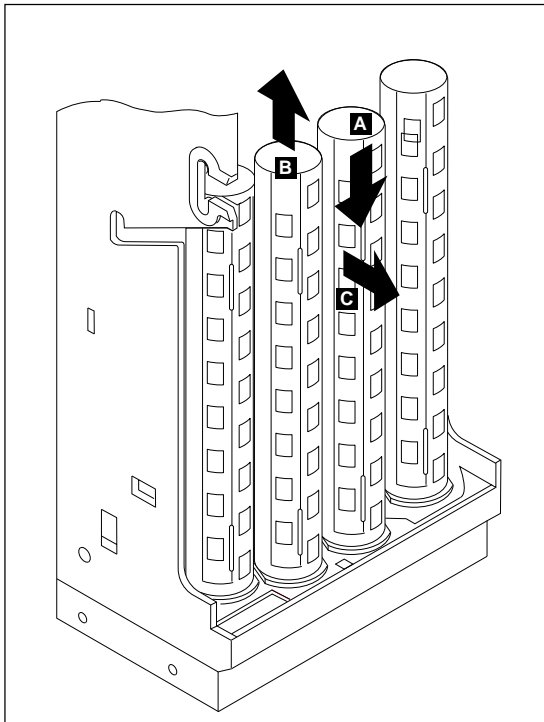

Fig. 15: Dismount first tube
- Push one of the middle tubes downwards (**A**) and pull the tube next to it upwards (**B**) to lift the partition, now remove tube towards the front (**C**), (fig. 15).